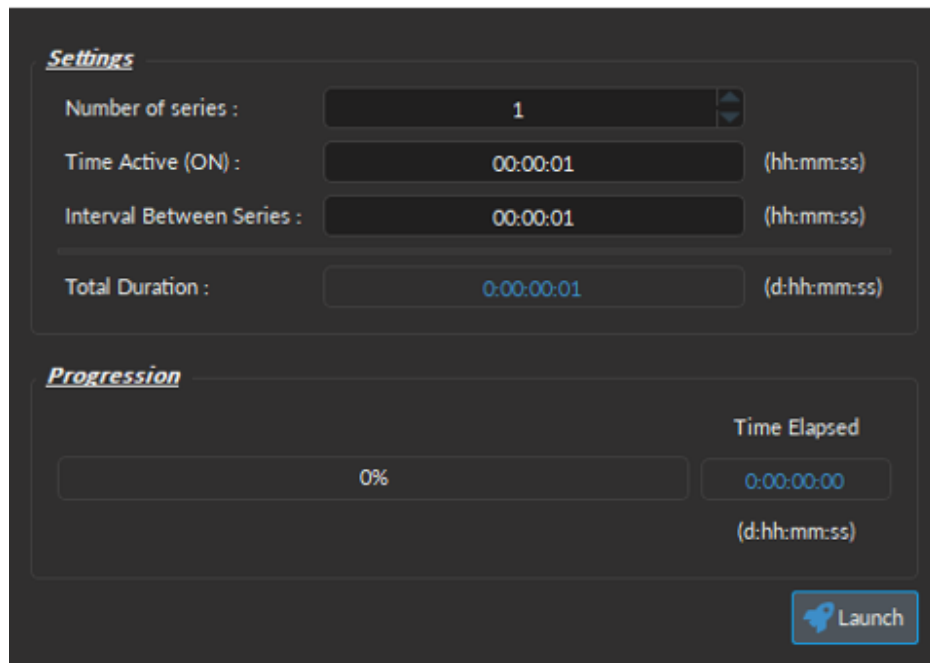

Figure 4.12: Time Series Window
2. The **Time Series** button opens the Time Series window (Fig. 4.12). This tool allows all channels to share the same timing.